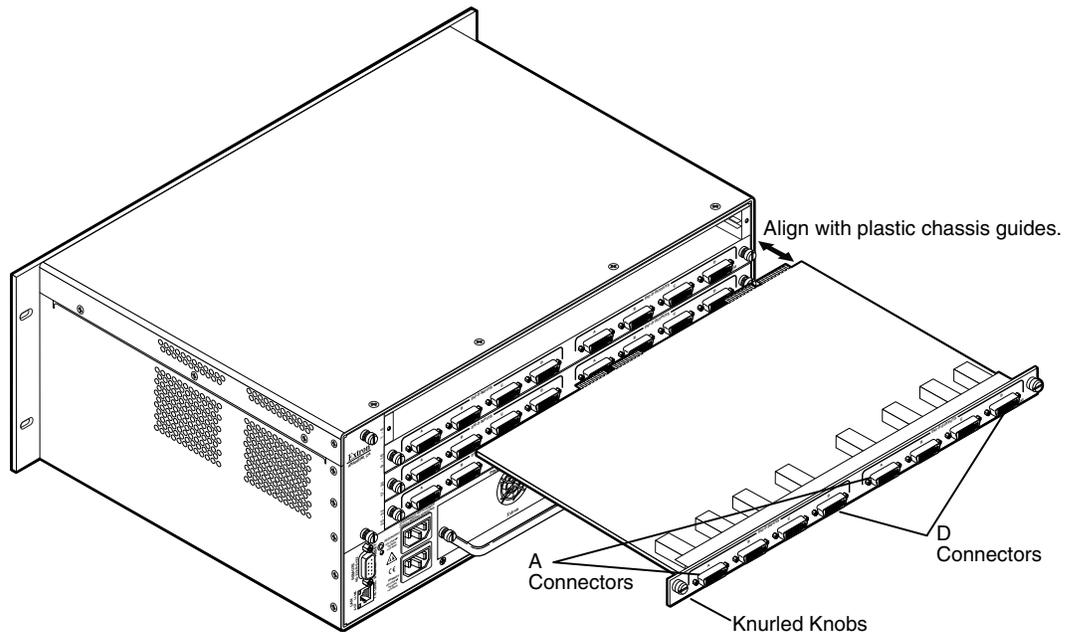

Figure 69. I/O Board Replacement
4. Slide the board or panel out of the chassis (see figure 69).
2. **For a board**, align the board with the left and right plastic chassis guides (see figure 69, on the previous page).